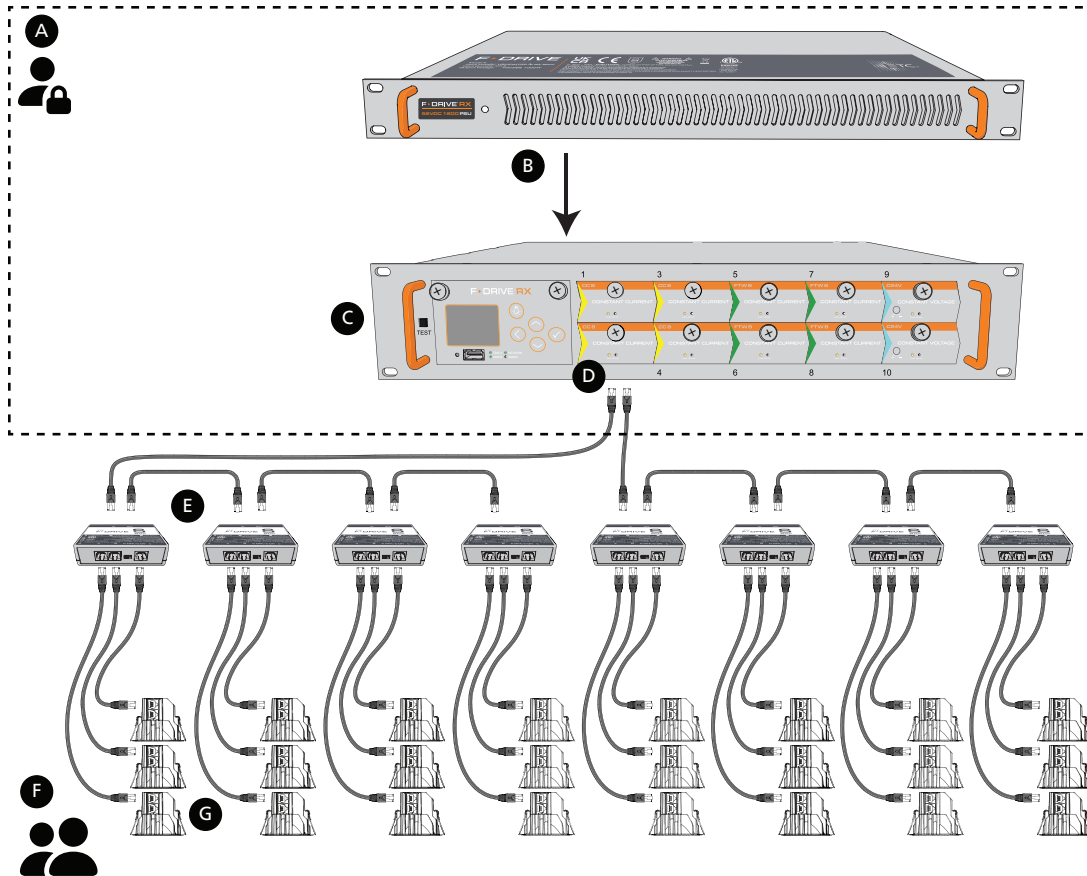

Figure 1. F-Drive RX, see Table 1 below for descriptions of each labeled item.
Table 1. Descriptions of the labeled items in Figure 1
- One or more F-Drive RX drivers (Figure 1, C on page 8).
- a. F-Drive RX Power Supply, (Figure 1, B on page 8). See Documentation for Compatible ETC Products on page 48.
- b. FD-RX-PSU-MW-FRAME four-bay frame and FD-RX-PSU-MW-56/3200 power supply modules (not shown in Figure 1 on page 8). Each four-bay frame houses up to four power supply modules to power up to four F-Drive RX drivers. See Install MEAN WELL 56 VDC Power Supplies on page 49.
- Up to ten F-Drive RX output cards for each F-Drive RX enclosure. An eight-channel CC 8 Card is shown as an example in Figure 1, D on page 8.
- B-Boxes (optional, not shown in Figure 1):
- S-Boxes (optional, shown in Figure 1):
- F-Drive safety kit (not shown in Figure 1): required for use with FD-RX-PSU-MW-FRAME four-bay frames. See Safety Kits on page 54.
The CC 8 Card can support up to 24 Navis 50 White luminaires using two daisy chains of four FD-SBOX-R with three luminaires connected to each FD-SBOX-R, illustrated in Figure 1 on page 8. See Use FD-SBOX-R to Connect Navis 50 White or Fade to Warm Luminaires on page 35.